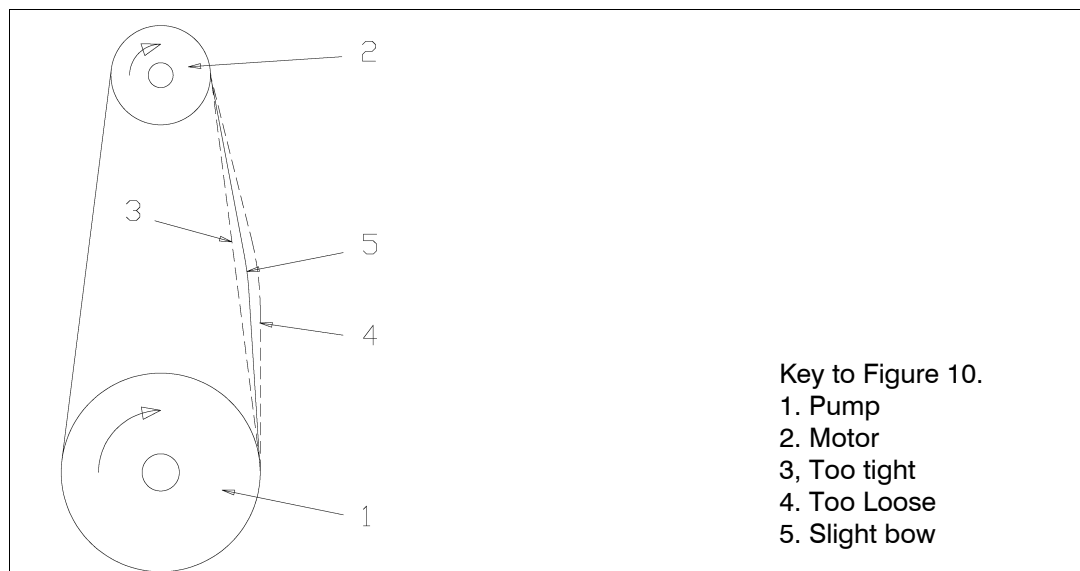

Figure 9. – V-Belt Tensioning
2. Start the drive and continue to tension the V-belt(s) until only a slight bow on the slack side of the drive appears while operating under load conditions as shown in Figure 9.